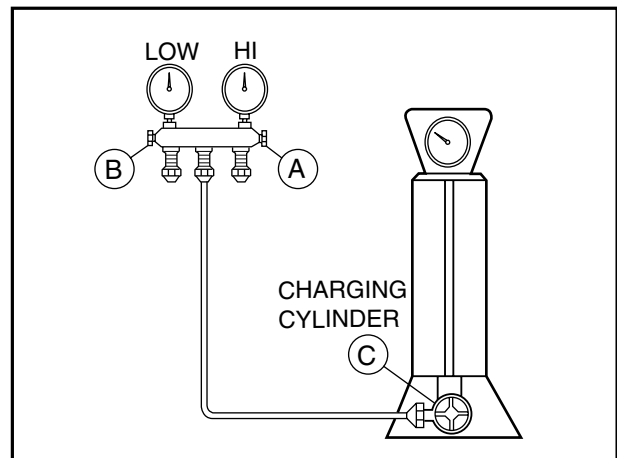

Figure 16B-Charging
- 2) Connect the charging cylinder as shown in figure 16B.
- 4) Remove the hose from the vacuum pump and place it on the charging cylinder. See figure 16B.